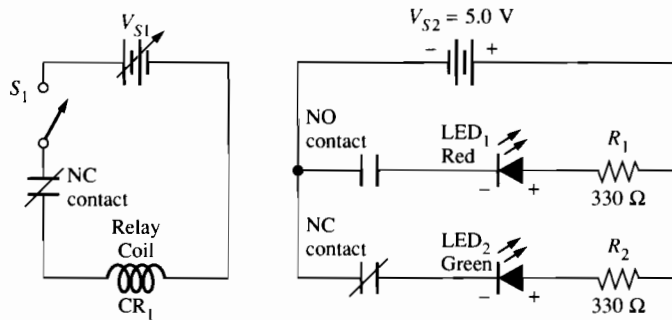

Figure 14–4
8. Remove the NO contact from around S_1 . Connect the NC contact in series with S_1 as shown in Figure 14–4. Explain what happens.